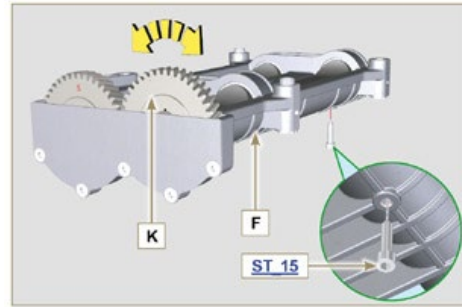

Fig 11.42
- Check that the retainer screw **ST_15** is not present on the box **F** (**Fig. 11.42**).